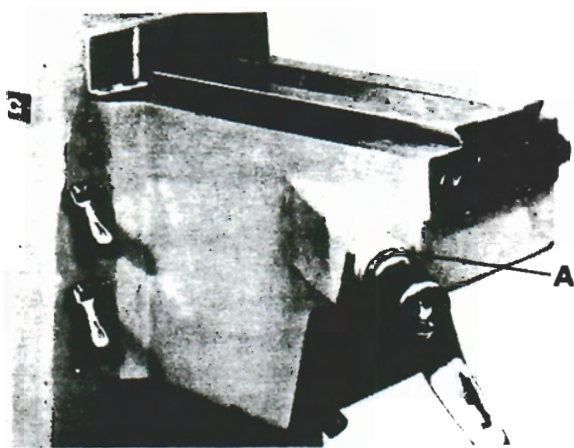

Figure 53
1. Loosen screw and drive out roll-pin from underside of knee, and pull out assembly (A, fig. 53).